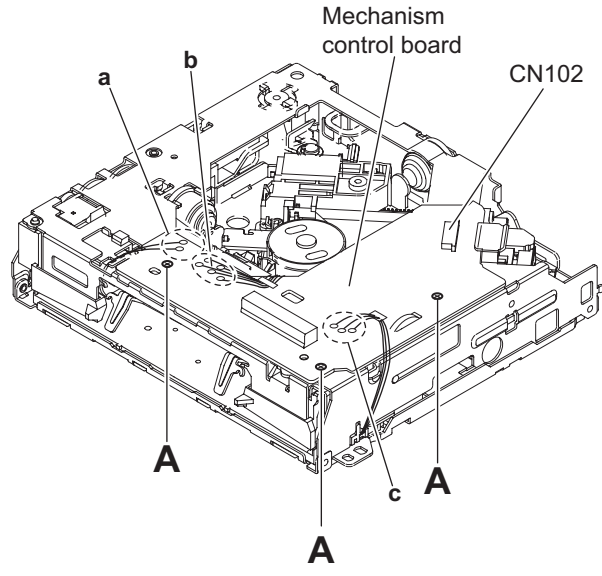

Fig.1
3.2.1 Removing the MECHANISM CONTROL BOARD assembly (See Fig.1 and 2)
- From the bottom side of CD MECHANISM assembly, remove the solders from the soldered sections (a, b and c) on the MECHANISM CONTROL BOARD assembly. (See Fig.1.)
- Remove the three screws **A** attaching the MECHANISM CONTROL BOARD assembly. (See Fig.1.)